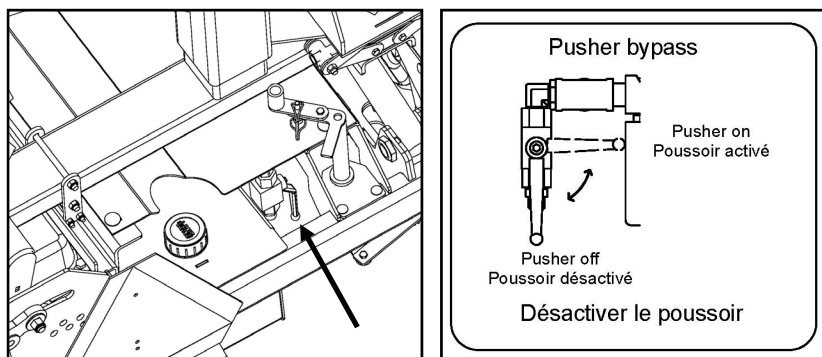

Figure 22 – Pusher bypass
- Deactivate the pusher (Figure 22).
- Reactivate the pusher (Figure 22).
You can deactivate the pusher if you need to change plastic rolls when a bale is on the pusher trigger. You will still be able to activate the hoop so that you will have access to the stretchers. To do this you will just have to turn off the ball valve located beside the hydraulic oil tank. When you turn this handle to the off position (Figure 22) the pusher will then be deactivated.